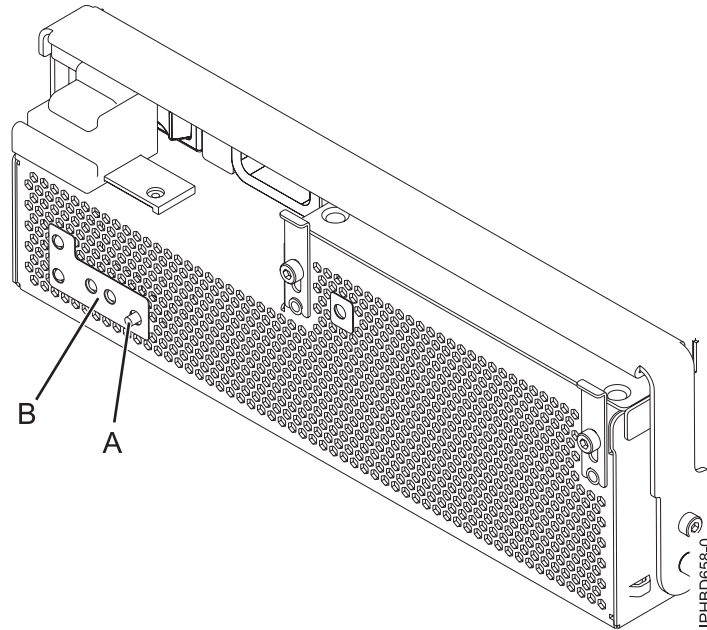

Figure 21. Fan fault LED
Note: If you replaced a power supply fan as part of this procedure, note the state of the fan fault LED (B) shown in Figure 21 on page 21. If the LED is off, indicating that both fans are operating normally, continue to the next step. If not, remove the power supply assembly from the expansion unit and repeat the procedure starting with step 5 on page 17. If, after repeating the procedure, the power supply fan is not operating normally, contact your service provider.